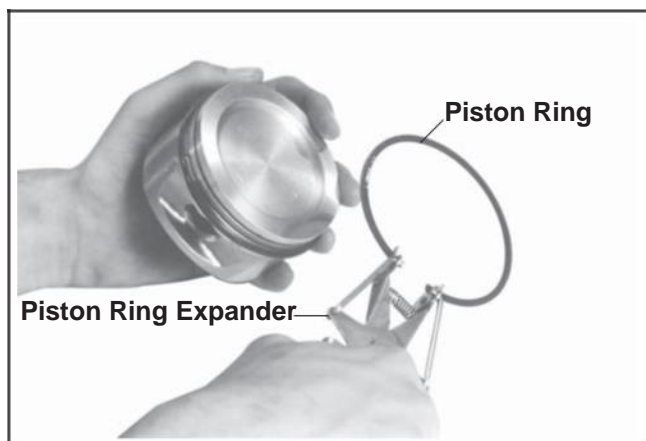

Figure 9-49. Removing Piston Rings.
1. Remove the top and center compression rings using a ring expander tool. See Figure 9-49.